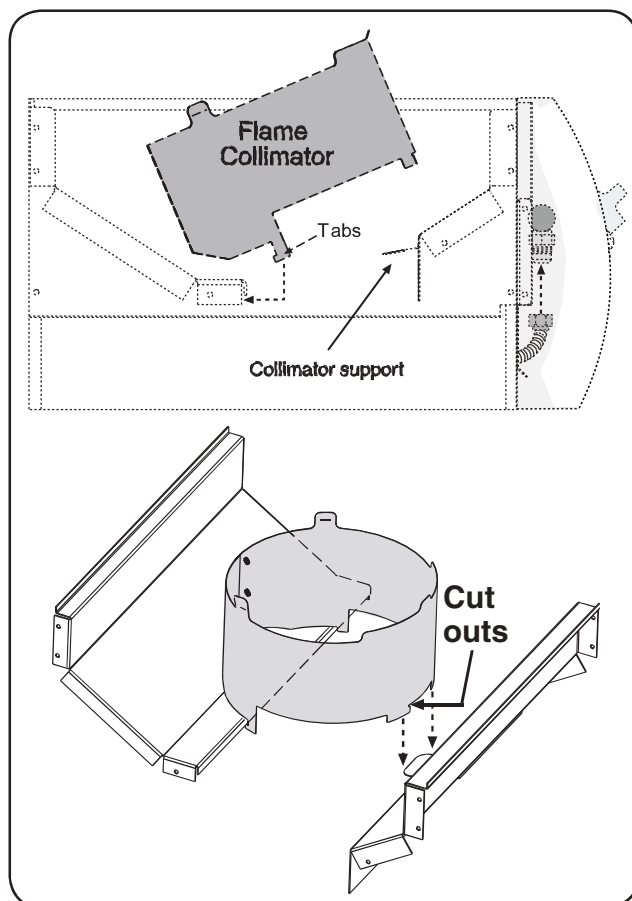

Fig. 19-3 Placing the flame collimator
1. Place the flame collimator over the burner with the tabs and cutouts resting on the inner liner shelf, as shown in Fig. 19-3. Flex the front of the collimator towards the burner until the cut outs fit down around the collimator support. This will lock your collimator into place. The flame collimator acts as a barrier for windy conditions and creates higher BTU concentration in the cooking grid.